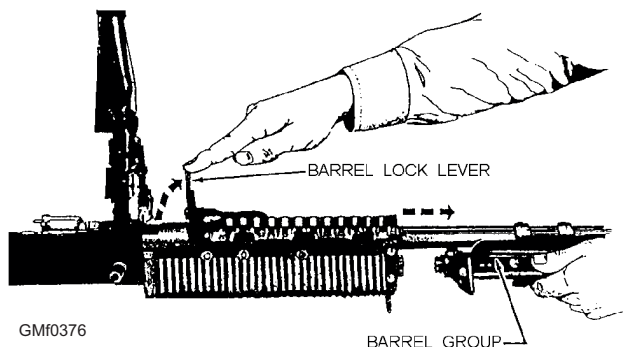

Figure 3-76.—Removing the barrel assembly.
The barrel assembly consists of the barrel, flash suppressor, front sight bipod assembly, and gas cylinder. To remove the assembly, raise the barrel lock lever to the vertical position and remove the barrel assembly by pulling it to the front as shown in figure 3-76.
1. Make sure the barrel lock lever is in the vertical position, as shown in figure 3-76. Insert the rear of the barrel under the barrel cover and align the gas cylinder nut with its recess in the forearm assembly. Lower the barrel lock lever.